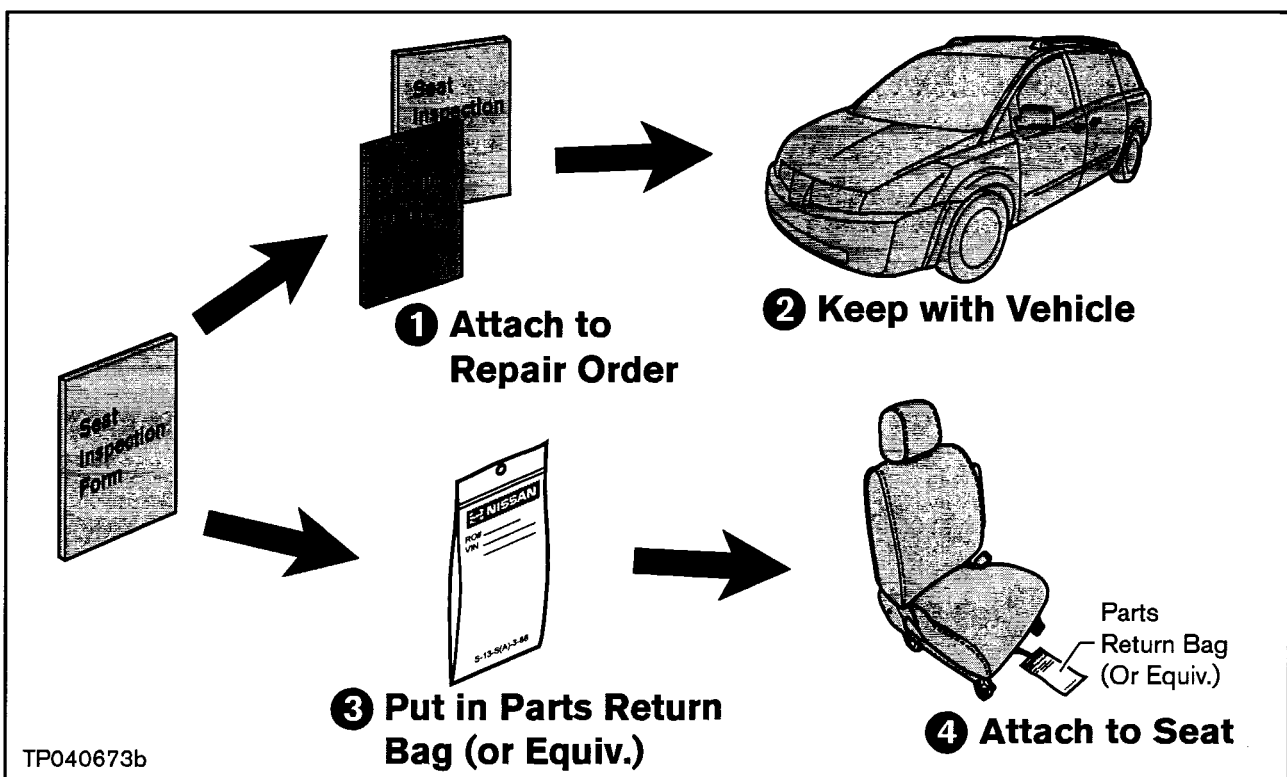

Figure 2
- Provide a copy of the Seat Inspection Form to the customer, keep a copy with the Repair Order, and attach a copy to the lower seat frame of the front passenger seat using a tie-wrap and a Nissan Parts Return Bag (or equivalent Zip-Loc bag with grommet). See Figure 2.
- Make sure the Seat Inspection Form (Figure 1) is attached to the lower seat frame (see Figure 2 below). Also, confirm that one copy of the Seat Inspection Form is attached to the Repair Order and kept with the vehicle.